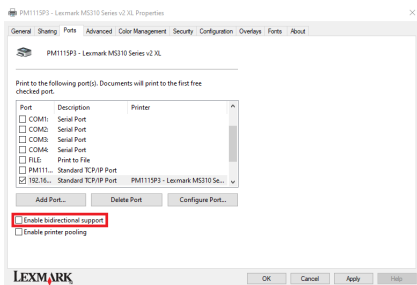

Figure 32
18. Click the **Ports** tab and ensure the **Enable bidirectional support** check box is **Not Checked**, then click **OK**. (Figure 32)